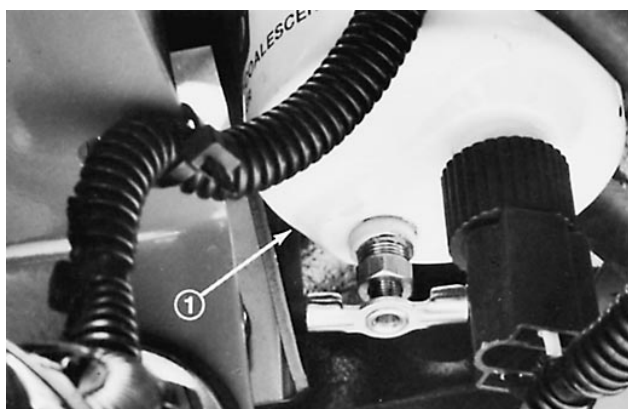

Figure 23
2. At the lower left side of the engine, loosen the air bleed screw at the top of the fuel filter/water separator (Fig. 23).